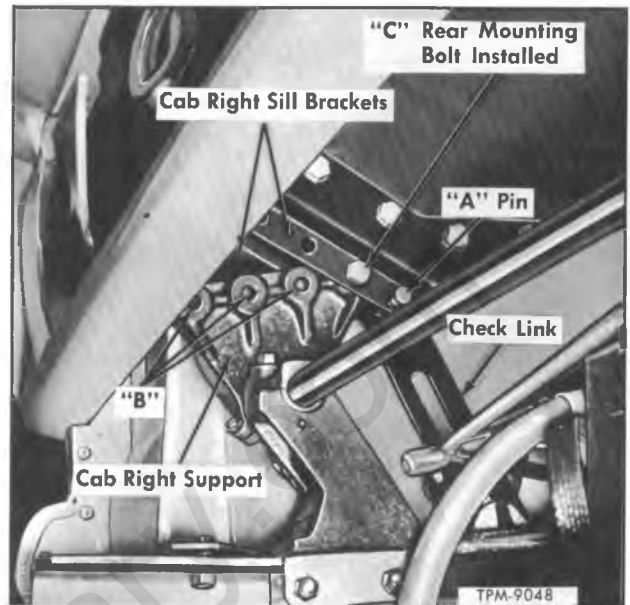

Figure 30—Mounting at Cab Rear Support
7. Using aid of assistant and hoist, tilt cab approximately 45° to the unloaded position of cab mounting torsion bar (refer to preceding caution) and suspend safely there. While cab is in this position, insert a pry bar in between cab right support and cab sill. Remove three forward bolts, lock washers and nuts from cab right support to sill brackets (B, fig. 30). Use pry bar to assist in removing bolts. Disconnect check link at right side of cab.
from torsion bar at cab left support and remove support cap. Raise cab slightly, and remove rear mounting bolt (C, fig. 30) attaching right support to sill brackets.
5. Install check link retaining clevis pin with cotter pin (A, fig. 30). Install bolt (C, fig. 30) into rear hole of cab right sill brackets and support.
7. With two assistants, one holding pry bar and the other helping to tilt cab forward (approximately 45 degrees), install the three remaining bolts, lock washers, and nuts (B, fig. 30) in the right cab support and sill brackets. Use pry bar to align bolt holes. Torque bolt nuts to 40-50 foot-pounds.